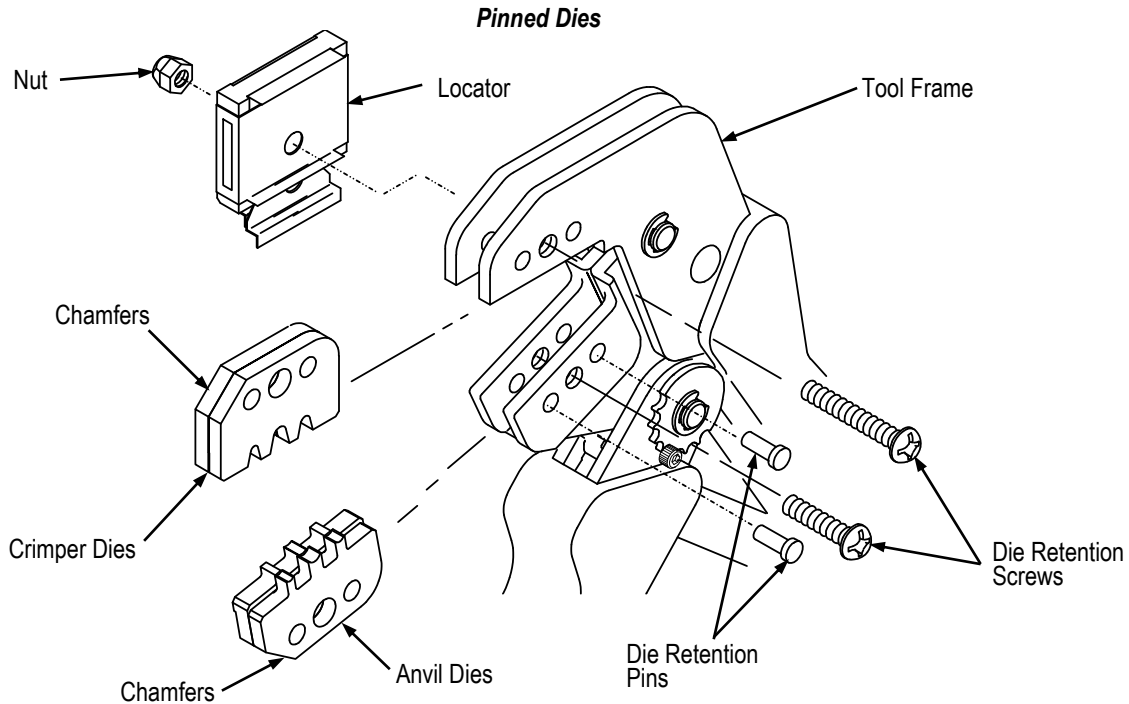

Figure 3
3.2. Pinned Dies (See Figure 3)